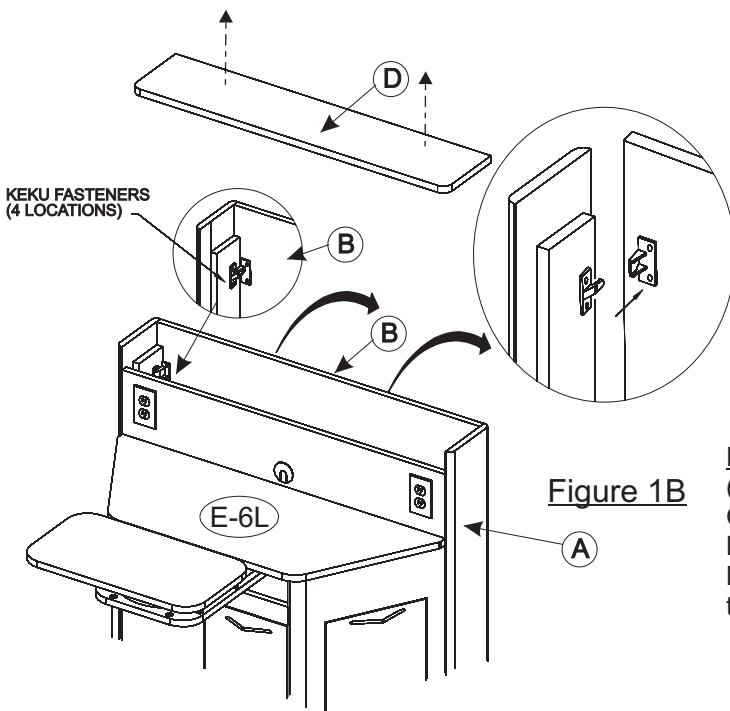

Figure 1B
For E-6L Models: Remove the Removeable Shelf (D). (see Figure 1B) Remove the Back Panel (B) from the Lower Cabinet (A) sides (see Figure 1B) by pulling the top of the Back Panel from the rear of the cabinet to release the upper Keku Latches and continuing pulling back to release the lower Keku Latches (4 locations).